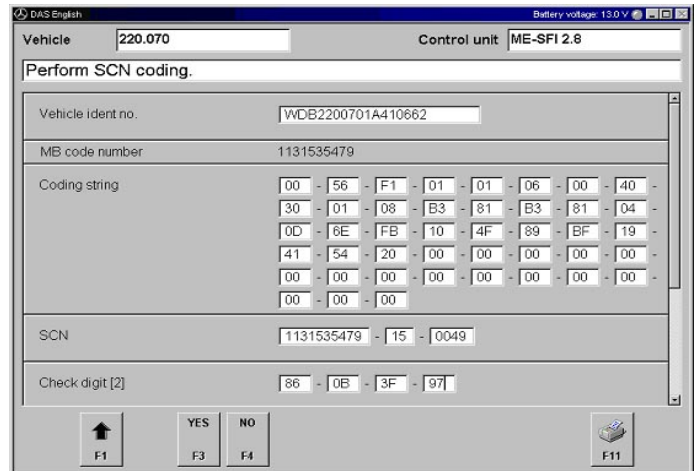

Figure 4
- Input SCN Code, then Press ‘F3’ (Figure 4)